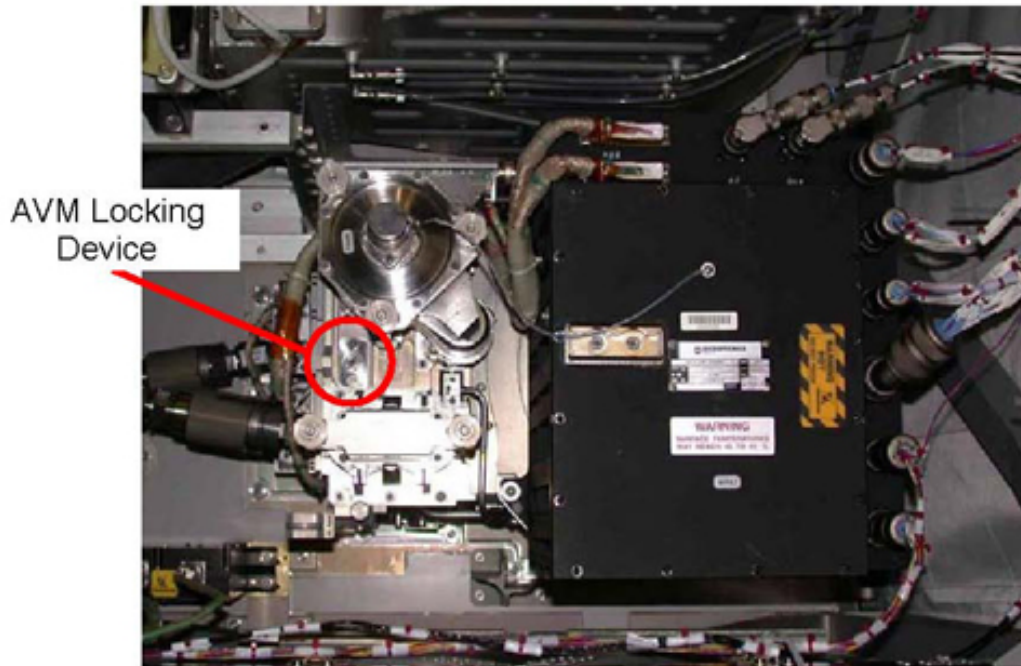

Figure 3. AVM Locking Device on WPA, view from top of D1 Rack
- 2.1 WPA1, 2 AVM Locking Device Nut ↺ (about 3 complete turns) (Ratchet Wrench 1/4"; 6" Extension, 1/4" Drive; M8 (13 mm) Socket, 1/4" Drive). Refer to Figures 3 and 4.